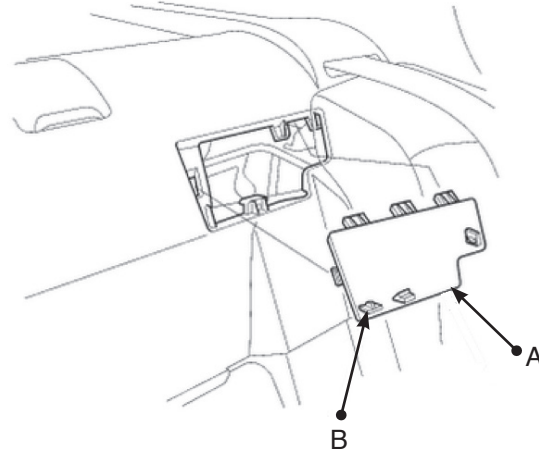

fig. C.3
2. On 4-door models, fold the rear seat back down and locate cover (Fig. C.3, A). On hybrid models, remove the rear seat to locate the cover. Lift up the tab (Fig. C.3, B) and using a flat blade screwdriver, release the hooks underneath the cover. Remove the plastic covers to expose the upper mounting nuts.